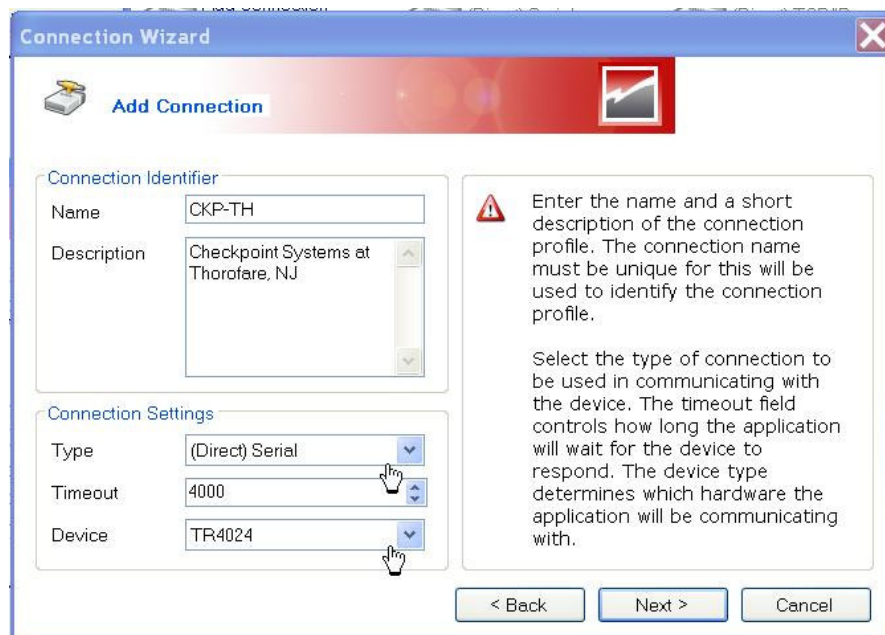

Figure 22 New Connection Setup
6. In the “Add Connection” window, enter the name and description in the “Connection Identifier” section. In the “Connection Setting” section, make selection at “Type” and “Device” selection boxes. Shown in *Figure 22 New Connection Setup*